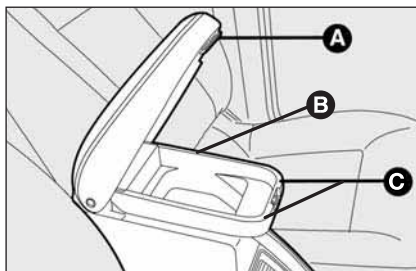
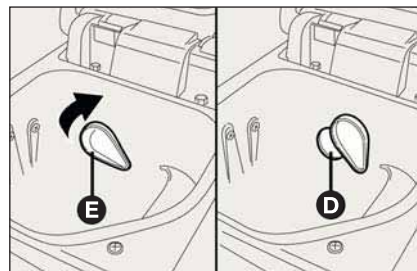

fig. 75
fig. 77
Press lever **A-fig. 75** to raise the front armrest and reach a first oddment/mobile phone compartment.
Lift cover **B-fig. 75** to reach a second compartment that is warmed/cooled by an air outlet **D-fig. 77** connected to the climate control system.
**Note** For direct access to the heated/cooled compartment, lift the arm without pressing the lever **A-fig. 75**. Hold it on the side areas at point **C** as shown in **fig. 75**.
Move lever **E-fig. 77** as shown by the arrow to open the outlet and to make cool/warm air come into the compartment.
When the armrest is fully raised, take care not to press button **A-fig. 75**, accidentally to avoid opening the oddment compartment cover and the falling of the objects contained as a consequence.